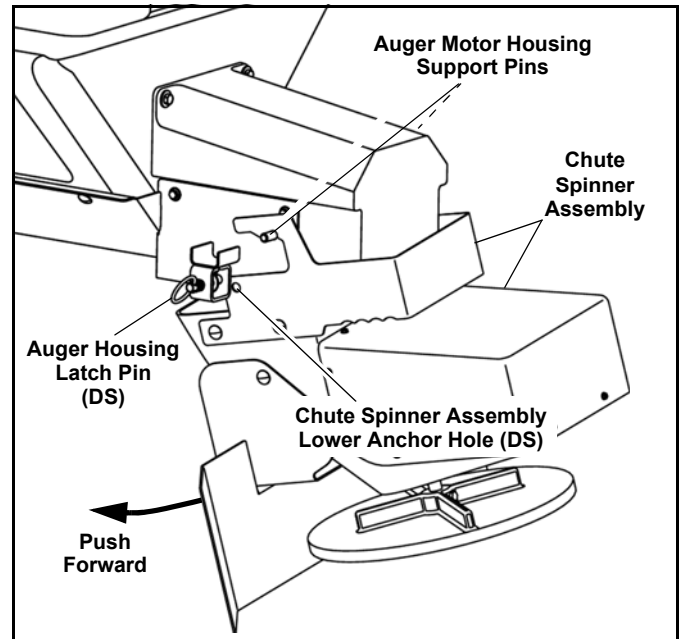

Figure 1-15
1. Position the chute spinner assembly on the auger housing support pins and push the bottom of the unit forward (See Figure 1-15).